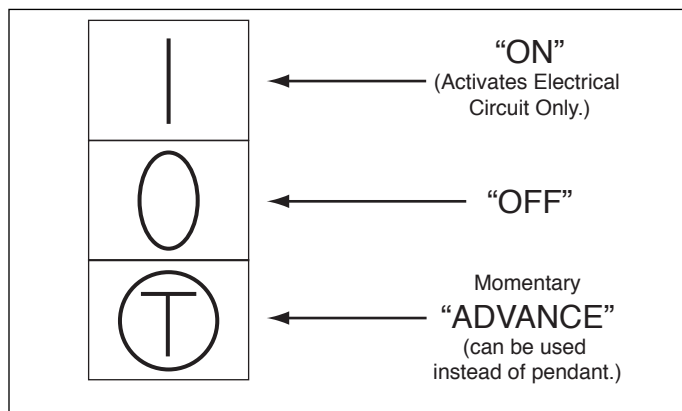

Figure 5 - Pump Switch Positions
- Be sure the pump switch is "OFF". See Fig. 5.